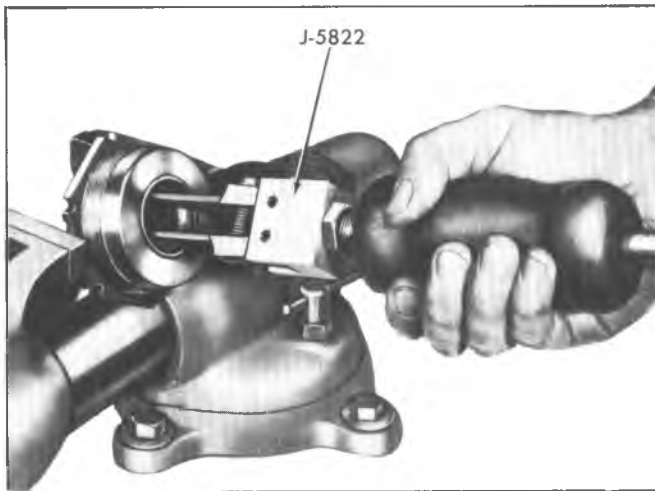

Fig. 9--Removing Adjuster Plug Bearing Race
1. **All Except Corvette**-- Remove the wormshaft bearing race using Tool J-5822 and a Slide Hammer as shown in Figure 9.